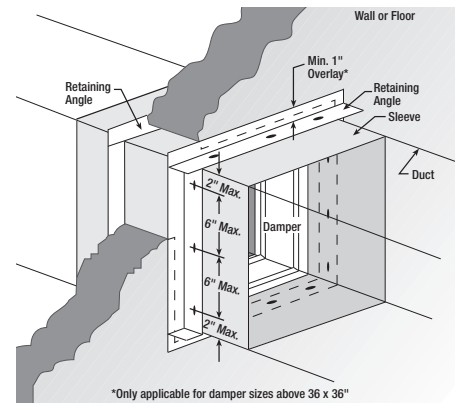

Figure 9 — Retaining Angle Installation
- Use 2nd retaining angle to sandwich the wall or floor to allow for damper/sleeve expansion during periods of intense heat and attach to sleeve using the same method discussed in Step 4a. **DO NOT FASTEN EITHER RETAINING ANGLE TO THE WALL/FLOOR MATERIAL.** A minimum of 1 inch overlap of the wall or floor is required, including all corners. See Figure 9.